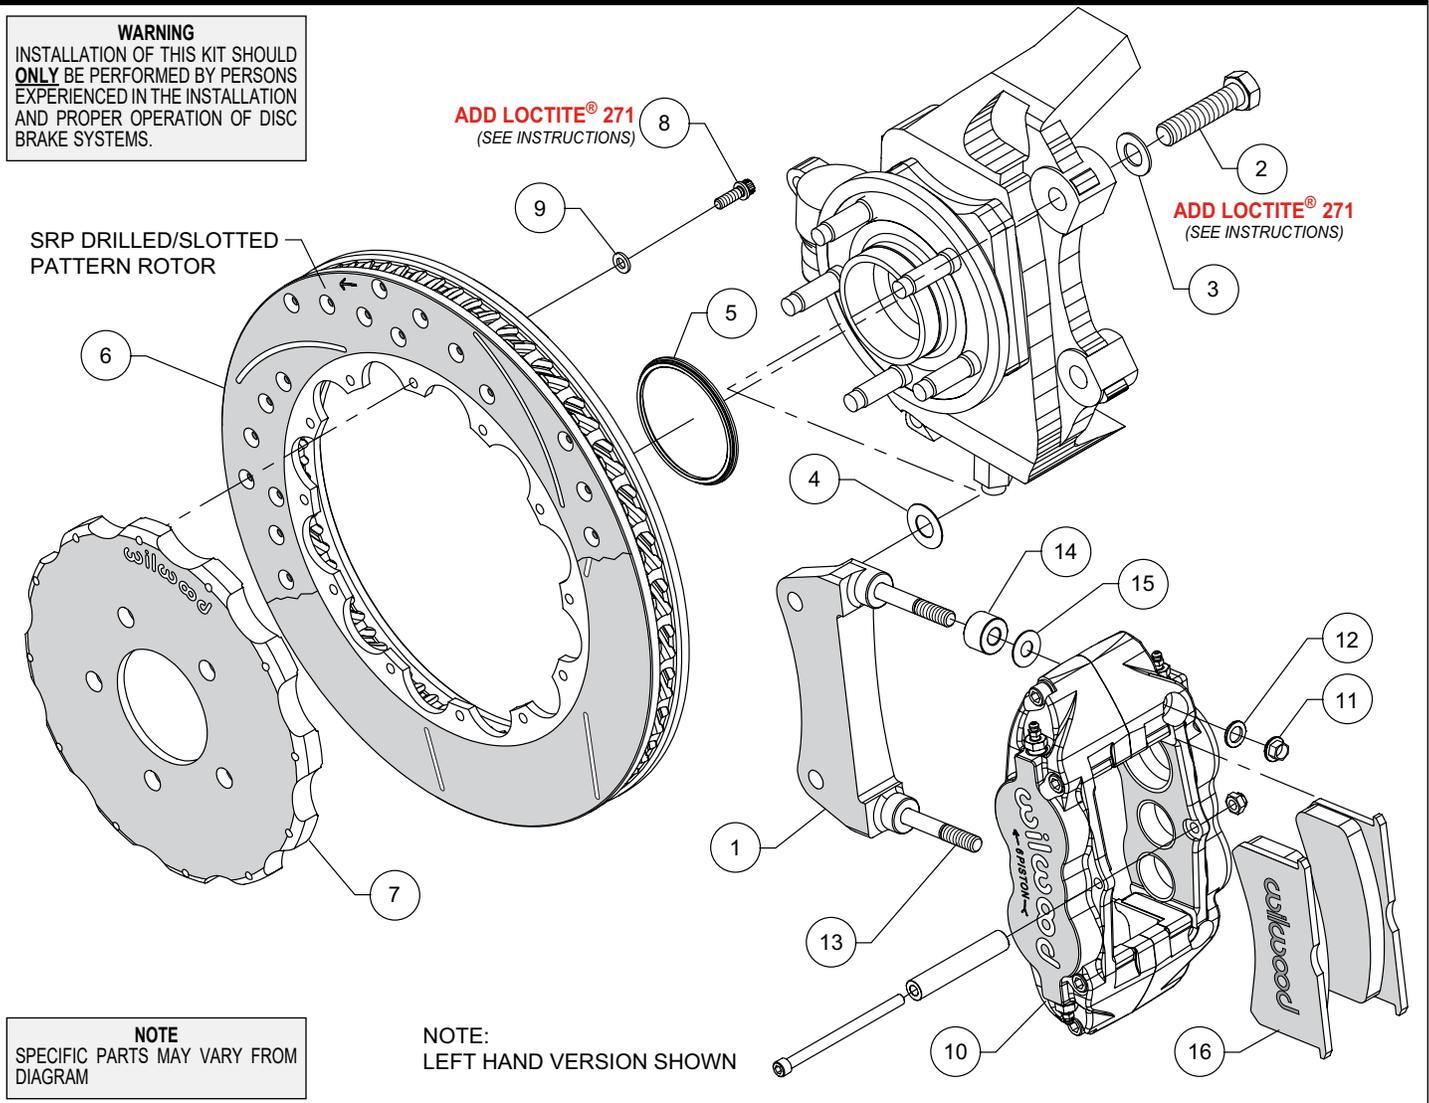
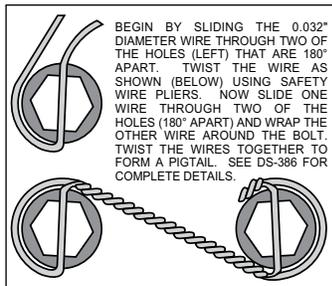

Figure 1. Typical Installation Configuration
Figure 3. Safety Wire Diagram
NOTE: Numbers in parenthesis refer to the parts list and Figure 1 on the preceding pages.
- The caliper mount bracket (1) should initially be installed with clean, dry threads on the mounting bolts. Orient the bracket as shown in Figure 1 and Photo 1, and install using bolts (2) and washers (3). Initially place one .029 thick shim (4) on each bolt between the bracket and upright, Figure 1. Temporarily tighten the mounting bolts. **NOTE:** The bracket must fit squarely against the mounting points on the upright. Inspect for interference from casting irregularities, machining ridges, burrs, etc. Later, after the caliper alignment has been checked, the mount bolts will be secured using red *Loctite*® 271.
- Orient the rotor (6) and the hat (7) as shown in Figure 1 and Photo 2. Attach rotor to hat using bolts (8) and washers (9). Apply red *Loctite*® 271 to the bolt threads and torque to 155 in-lb using a criss-cross pattern. For an added measure of security, the bolts may be safety wired using standard 0.032 inch diameter stainless steel safety wire as shown in Figure 3. Please refer to Wilwood's data sheet DS-386 (available at www.wilwood.com/Pdf/DataSheets/ds386.pdf) for complete safety wire installation instructions.
- NOTE:** This kit contains distinct right and left hand calipers that must be mounted in a specific direction, as described below. Initially place one spacer (14) and one .035" thick shim (15) on each stud (13) between the caliper and the bracket, as shown in Figure 1 and Photo 5. Mount the caliper (10) onto the bracket (1) using lock nuts (11) and washers (12), Figure 1. Ensure that the caliper is mounted so the largest pistons are at the rotor exit end of the caliper, in relation to the direction of rotor rotation. Temporarily tighten the lock nuts and view the rotor through the top opening of the caliper. The rotor should be centered in the caliper, Photo 6. If not, adjust by adding or subtracting shims (4) between the bracket and the upright. Always use the same amount of shims on each of the two mounting bolts. Once the caliper alignment is correct, remove the bracket mounting bolts (2) one at a time, apply red *Loctite*® 271 to the threads, and torque to 77 ft-lbs.